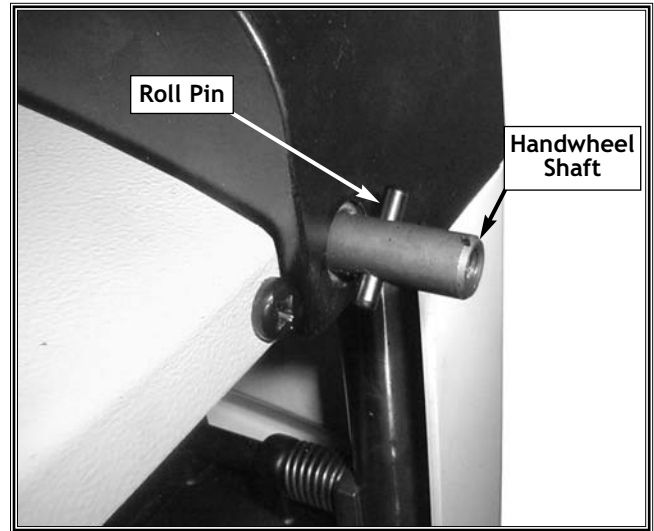

Figure 10. Insert the roll pin into shaft.
1. If not already done, insert the roll pin into the shaft protruding from the front of the planer. See **Figure 10**.